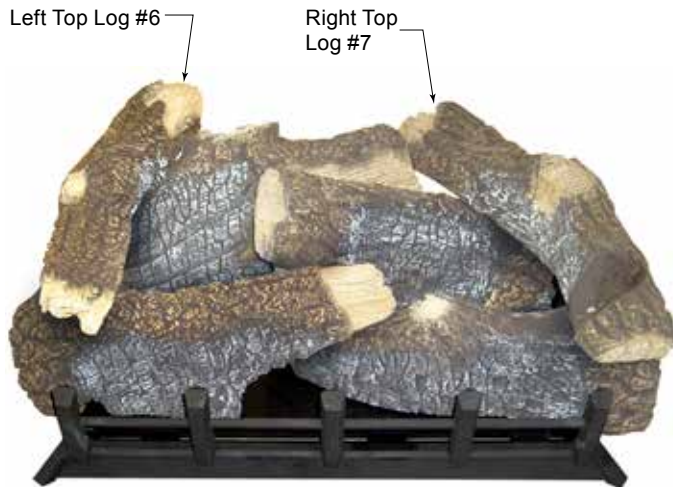

Figure 40.
log (#5) using locating grooves on bottom of #6 and locating blocks on logs #4 and #5. Figure 40.
7. Place right top log (#7) on right rear log (#3) and right front log (#2) using locators on the bottom of log #7 and locators on logs #2 and #3. Figure 40.